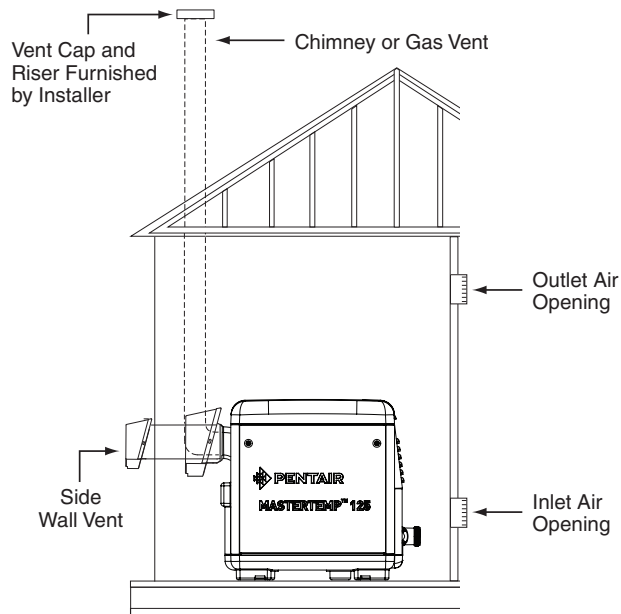

Figure 22
GAS VENT (SEE FIGURE 22, 23, & 24 ON PAGE 19)
6. **Vent Termination – Vertical** (See Figure 22, 23, & 24), for height of vent termination above the roof. Use an "Approved" vent terminal specified by local and national codes and your manufacturer's instructions. A roof termination must be vertical.